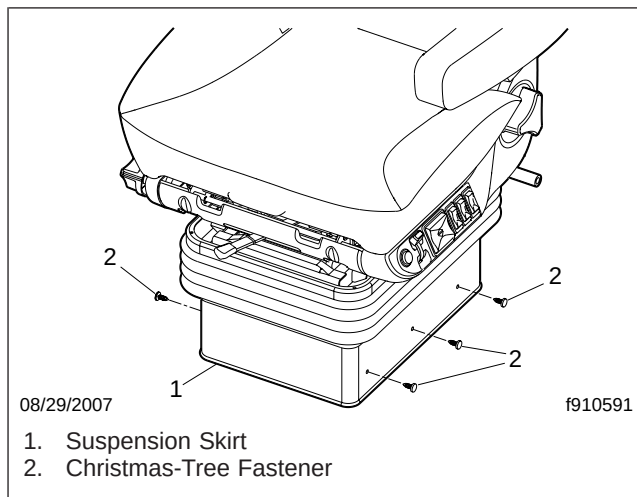

Fig. 1, Seat Suspension Skirt Installation
3. Remove the seat suspension skirt, if so equipped, by removing the six Christmas-tree fasteners that attach the skirt to the seat base; see Fig. 1.